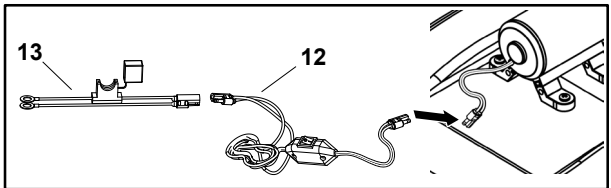

FIGURE 9
STEP 9: (SEE FIGURE 9)
- Connect the wire harness switch (12) to the wire harness battery (13).
- Route the wire harness switch towards the sprayer using the plastic wire harness clips (P).